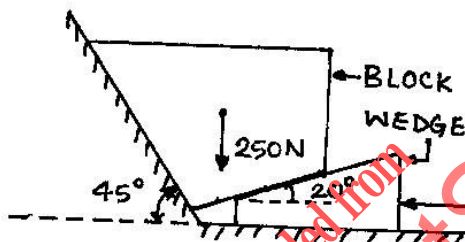

FIG 5. Q 3 (c)
- (c) A block weighing 250N rest against wall as shown in **fig 5.** A wedge is placed under it. Find out minimum force 'P' required to lift the block. The coefficient of friction at all contacting surfaces is 0.25. Neglect self weight of wedge. **05**